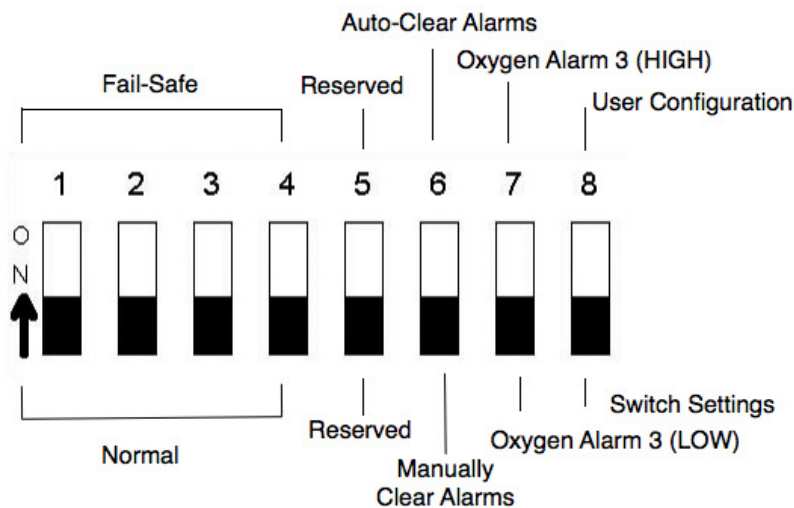

Figure 3-2: On-Board Switch Settings For Fail-Safe Operation
The on-board switch settings provide operator control for fail-safe operation and high/low alarms. This switch bank has eight (8) individual switches for configuring the Series 1000 as shown in Figure 3-2.
Switches 1-4 control the fail-safe operation for each of the four alarm relays. Each switch must be turned "ON" to be fail-safe as shown in Figure 3-2. When the system is in the fail-safe mode, an alarm condition changes the state of the corresponding relay from energized to de-energized upon loss of AC power. Switches 1 - 4 are set to OFF (normal operation or non fail-safe) at the factory.
1. Make sure SW6 Switch 8 is set to the OFF position (see Figure 3-2)